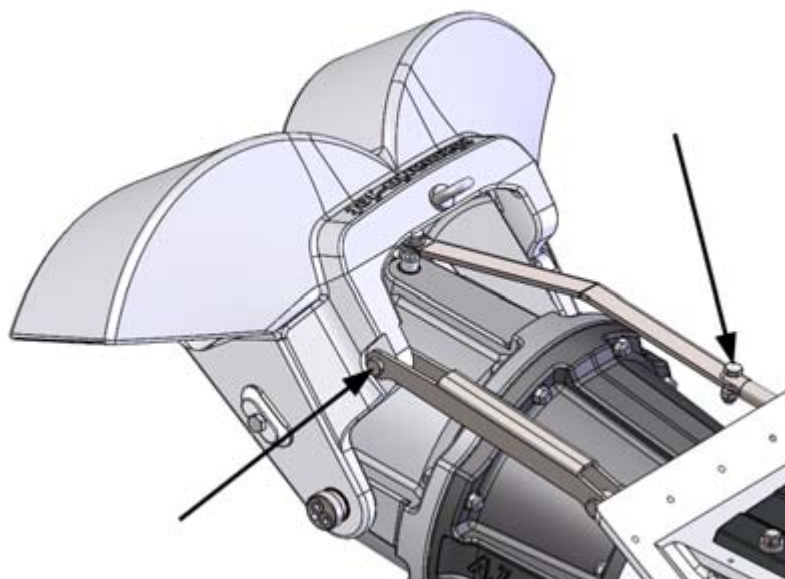

Figure 27. Reversing deflector screws
1. Open the screws indicated by arrows in figure 27.